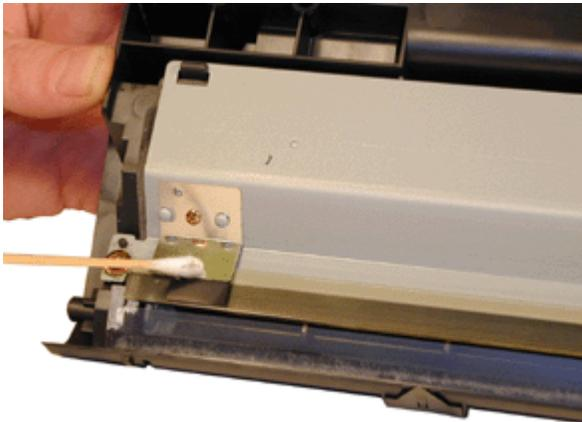

FIGURE 15
12. Clean the PCR contacts with a cotton swab and alcohol. See Figure 15